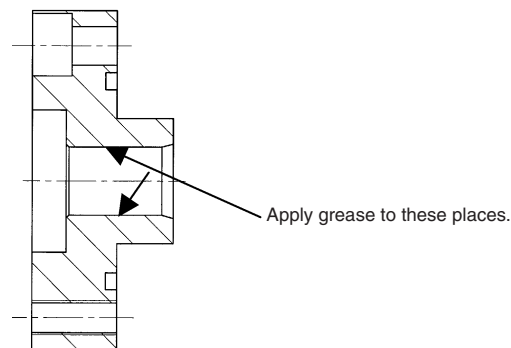

Fig. 4-32 Sectional view of bushing
Replace the O-ring of the drive shaft bushing and then apply grease (Shell Alvania Grease S(RL) No. 2) to the O-ring and also to the inside of the bushing as shown in Fig. 4-32 below. After that, put the drive shaft in the discharge end cover, and finally reassemble the bushing. Furthermore, if the bushing has any flaw or abnormal wear inside (grease applied part), replace the bushing.